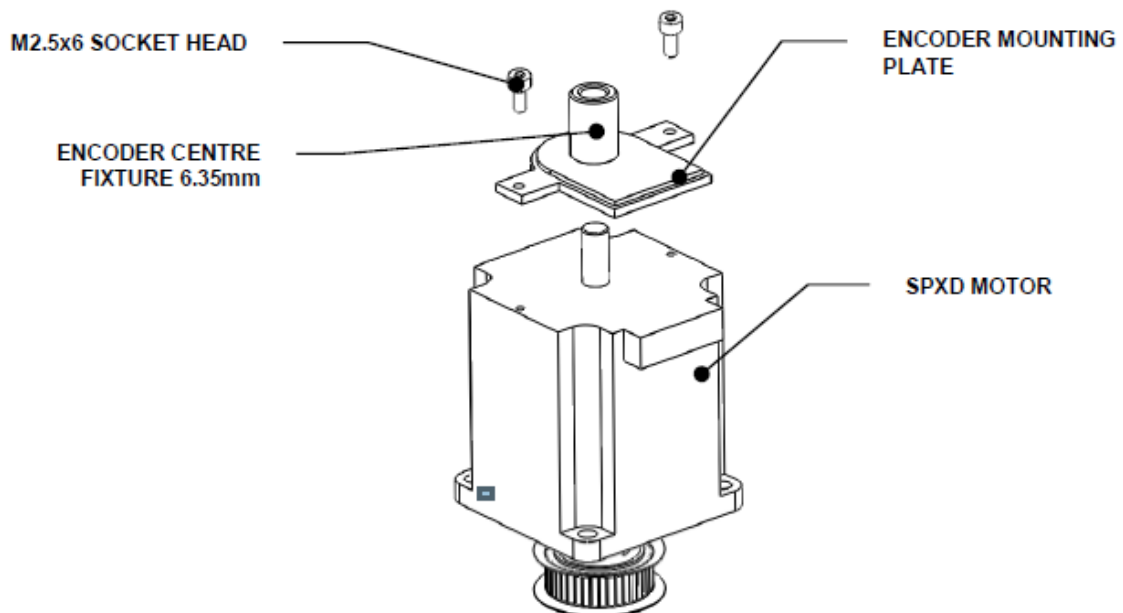

Figure Q-16: Mounting the Encoder Mounting Plate
3. Attach the Mounting Plate, part of the Encoder, to the Reagent Pipettor X Drive Motor using the Encoder Centre Fixture 6.35mm (P24FIX007) and two M2.5x6 Socket Cap Head Screws with Loctite 425. Ensure that the mounting plate is centralized around the pulley idler shaft (Figure Q-16).